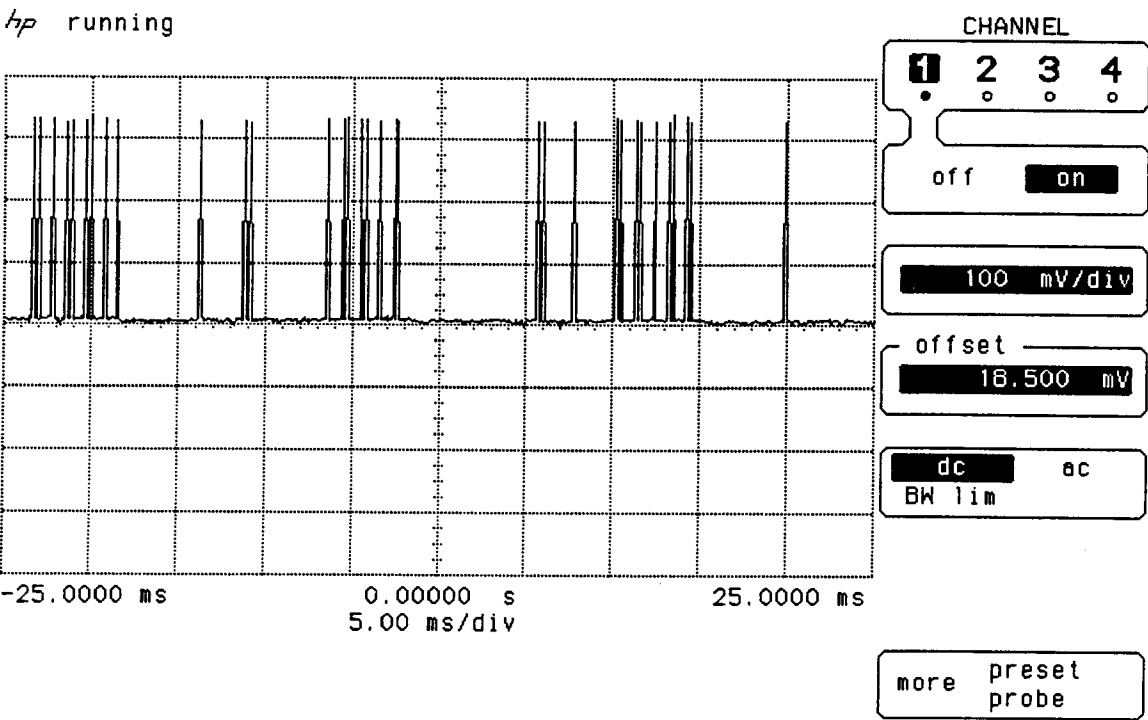

Figure 4-15. Half-Bright Video Signal (With CRT Diagnostic Running)
- 7. Verify that the CRT video signals (Half-bright, Full-bright) are similar to Figures 4-15 and 4-16.